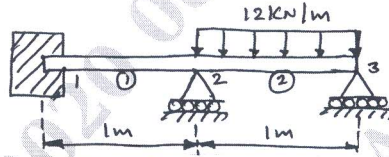

Fig.Q5(a)
b. For the beam and loading shown in Fig.Q5(a), determine the slopes at 2 and 3 and the vertical deflection at the midpoints of the distributed load. Take $E = 200 \text{ GPa}$, $I = 4 \times 10^6 \text{ mm}^4$.